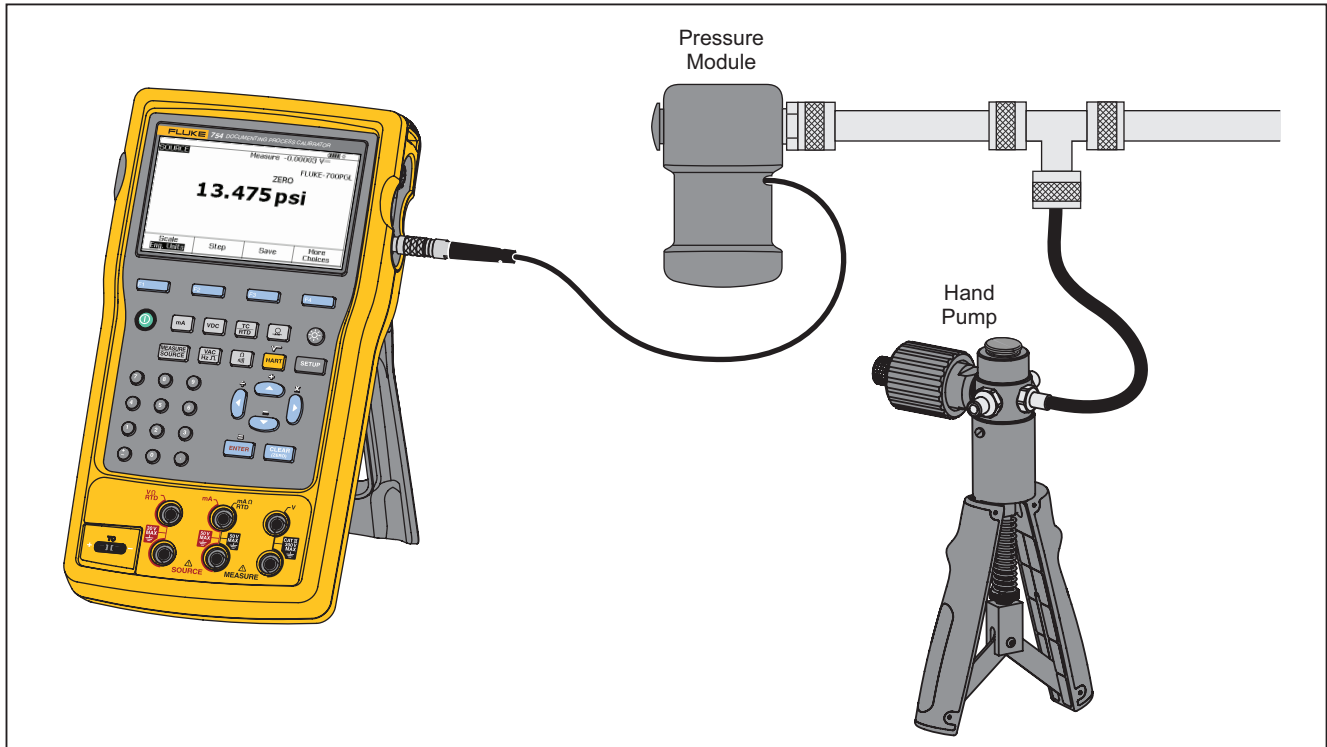

Figure 21. Connections to Source Pressure
The Product has a source pressure display function where an external pressure hand pump is necessary. Use this function to calibrate instruments where a pressure source or differential pressure measurement is necessary. See Figures 21 and 36 for information about that application.
To use the source pressure display, see Figure 21:
1. Connect a pressure module and pressure source to the Product as Figure 21 shows. The threads on the pressure modules accept ¼ NPT fittings. Use the supplied ¼ NPT to ¼ ISO adapter if necessary.